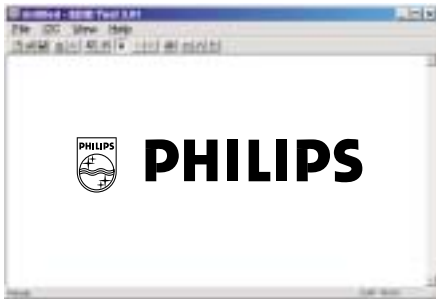

Fig. 9
- 4. Click **OK** button. The main menu appears (as shown in Fig. 9). This is for initialize alignment box.